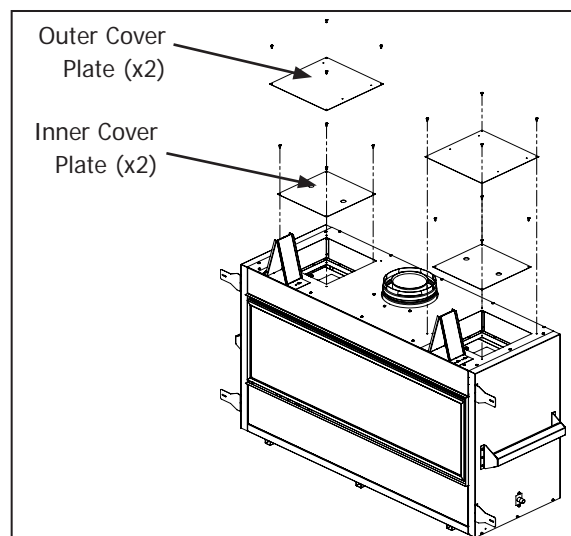

Figure 17. Cover Plate Removal
Step 1: Using a T20 screwdriver, remove the inner and outer cover plates from the fireplace as shown (Figure 17). Each cover plate has four (4) mounting screws. Both sets of cover plates are no longer required and can be recycled. Retain eight (8) of the removed mounting screws to secure the duct collars.